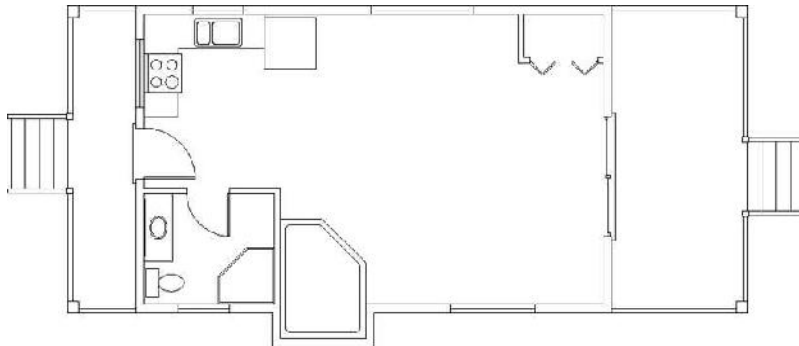

FIGURE 7.44: The cabin drawing after inserting the windows and adjusting the zoom factor
18. Use the scroll wheel to zoom out a little from the Extents view so that all objects are set in slightly from the edge of the drawing area. Your drawing, with all the windows in place, should look like Figure 7.44.